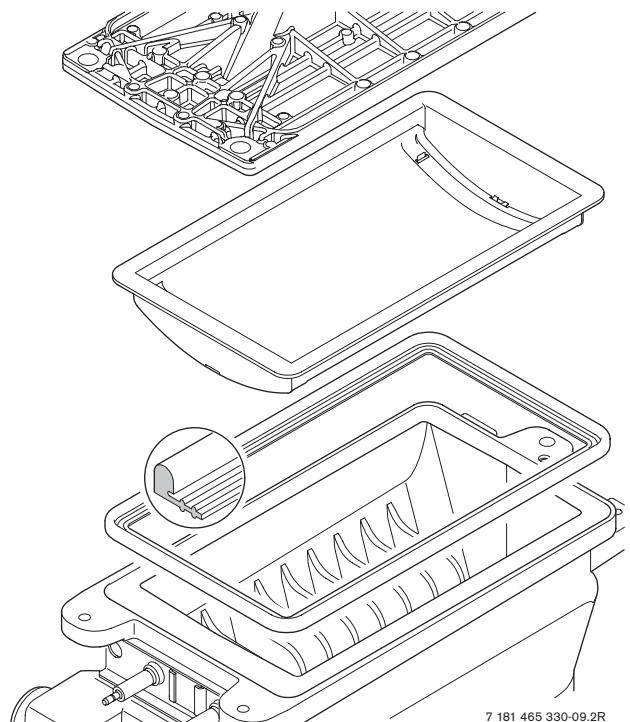

Fig. 58
- ▶ Remove the burner skin and clean components. Do not use a wire brush. Refer to fig. 58.